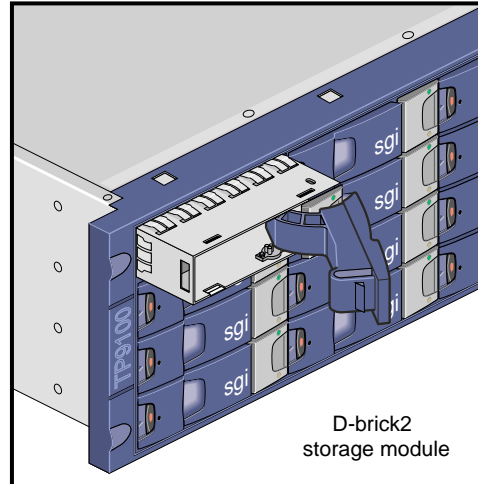

Figure 12-21 Removing the Drive Carrier Module
4. Open the handle by pressing the latch on the module handle towards the right. Then gently slide the module out of the enclosure approximately 1 inch (25 mm), and wait 30 seconds for the drive to stop spinning. See Figure 12-21.